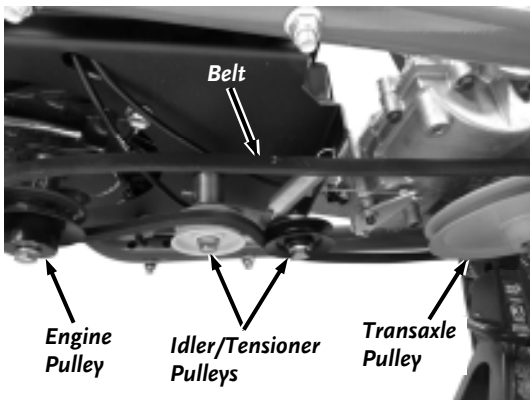

Figure 47
6. Remove the Belt from the Engine, Idler/Tensioner and Transaxle Pulleys (**Figure 47**).